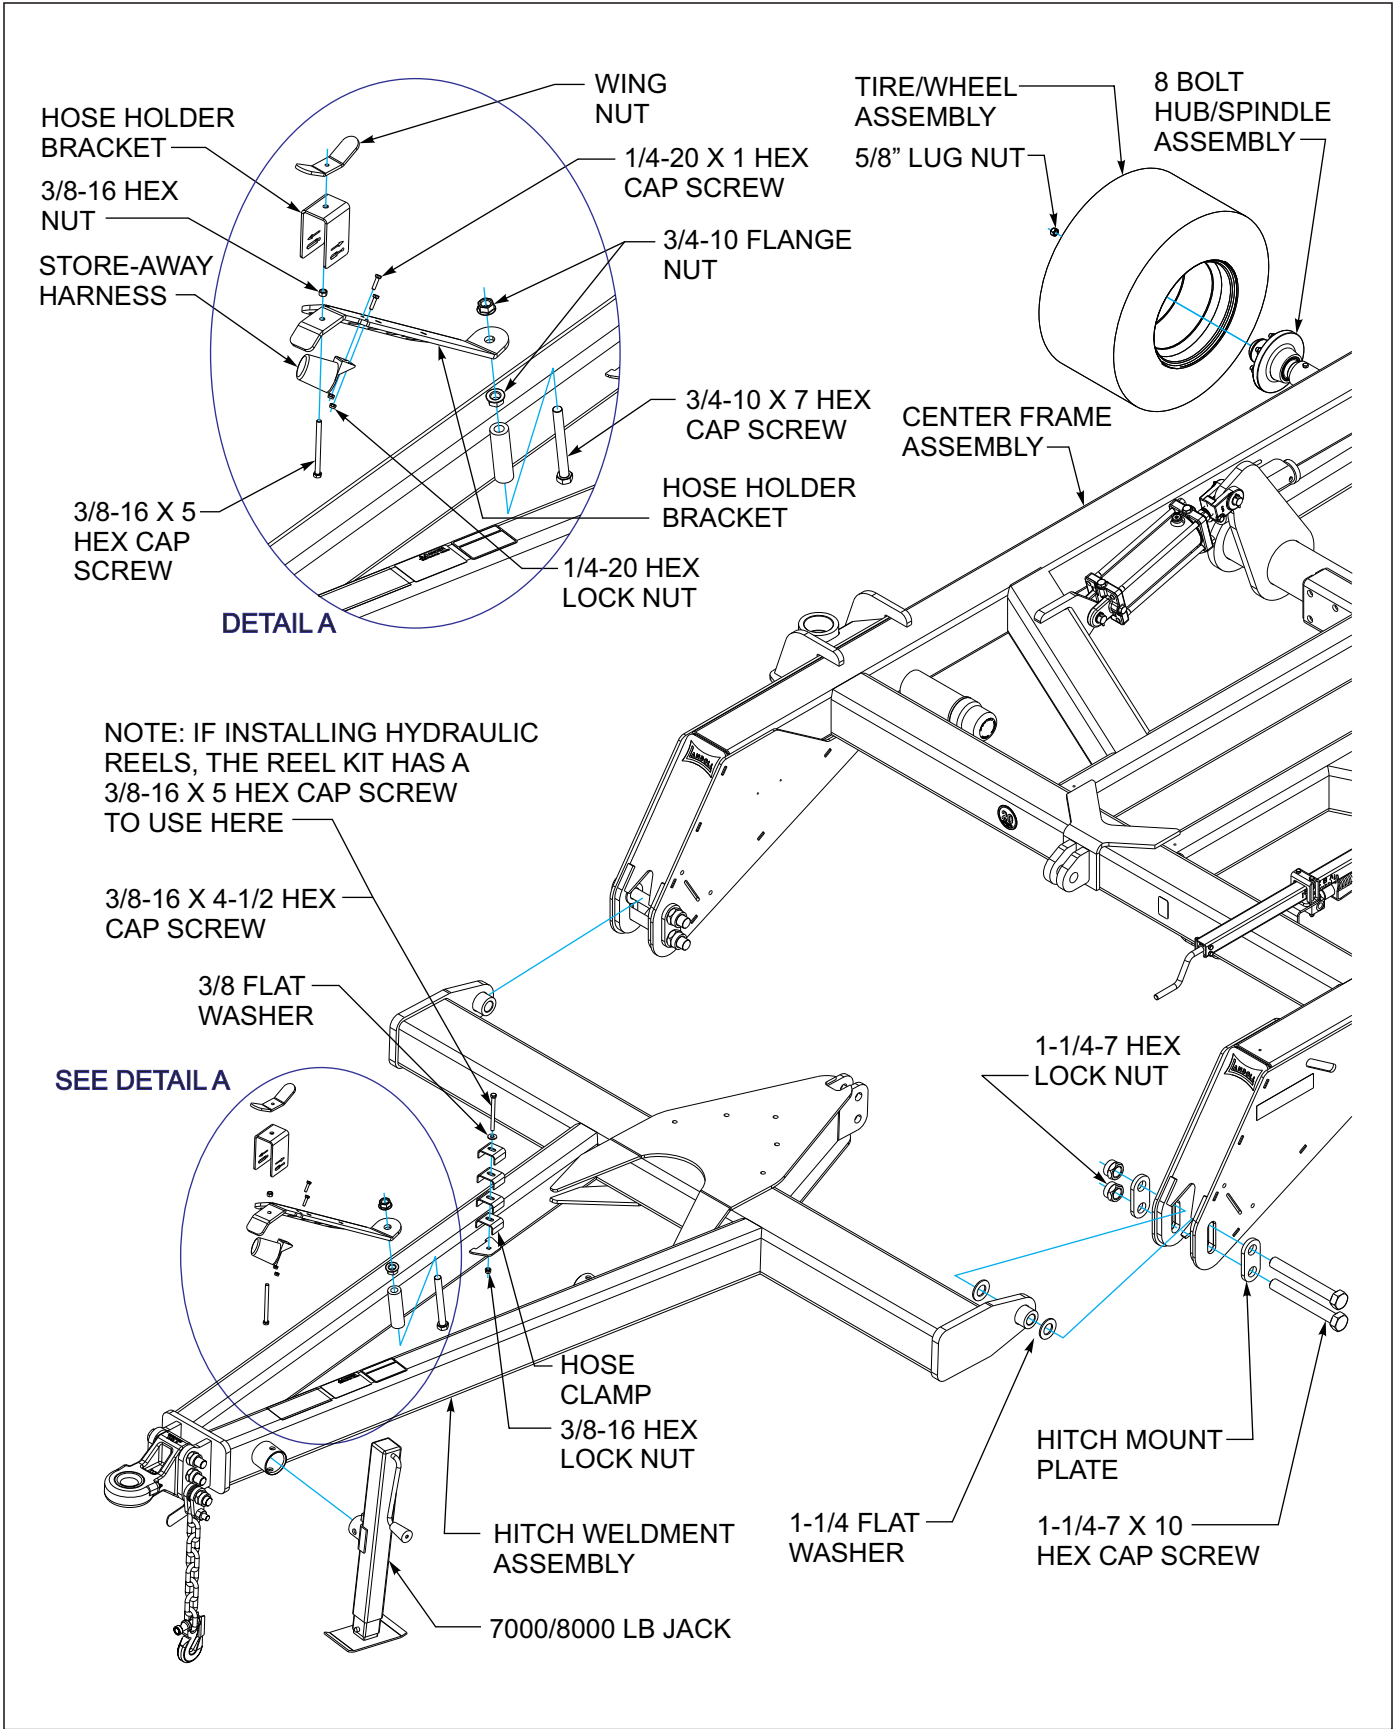

Figure 3-2: 7510-14' Frame and Hitch Assembly Installation
1. Place the center frame assembly on stands approximately 36" high, (See Figure 3-2.) The assembly area should be a large level area of sufficient size to accommodate the disc when fully assembled.
2. Attach the hitch weldment (See Figure 3-2.), to the front of the center frame using 1-1/4-7 x 10 cap screws, 1-1/4 flat washers, hitch mount plates and 1-1/4-7 lock nuts. The 1-1/4 flat washers are provided.